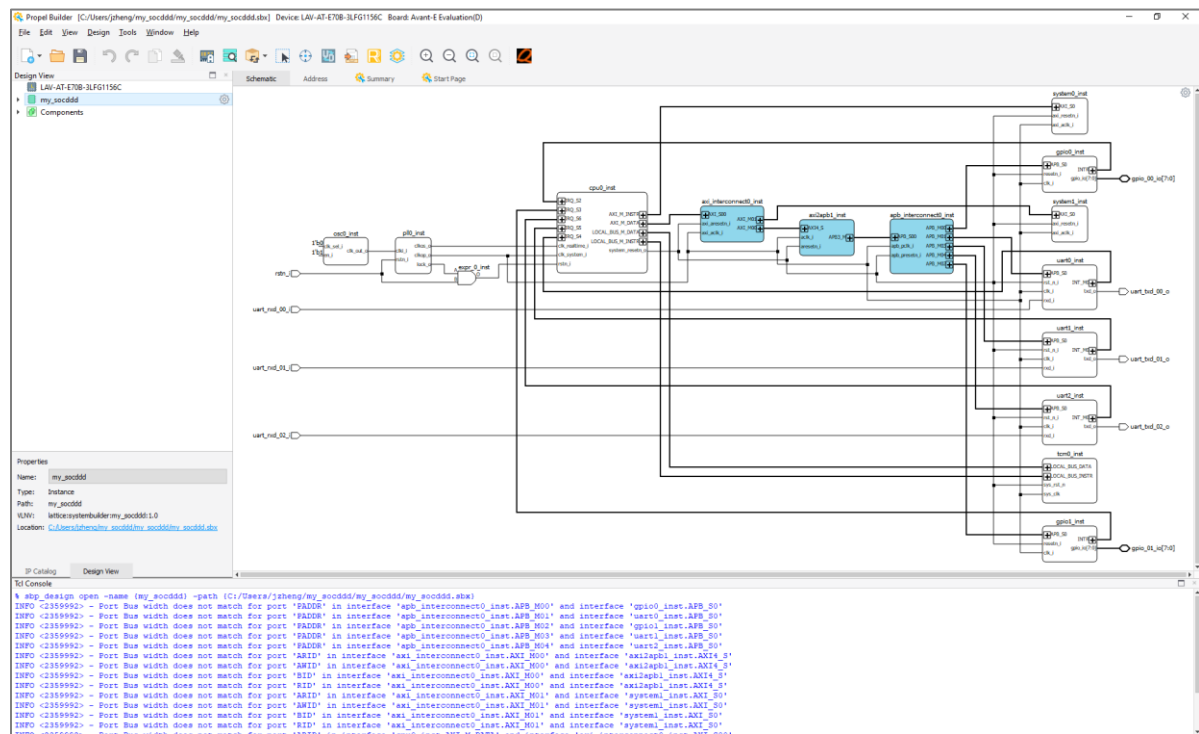

Figure 2.30. Scalable Wizard – Project Create Success
- The SoC design project is successfully created for Scalable Design (Figure 2.30).